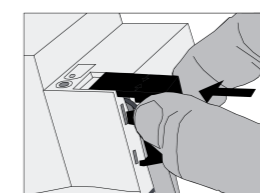

Figure 5: Installing the cover
- o Install cover on top of the bus terminal so that it snaps into place (figure 5).